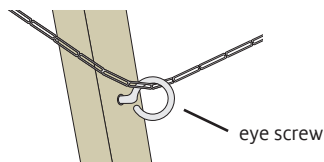
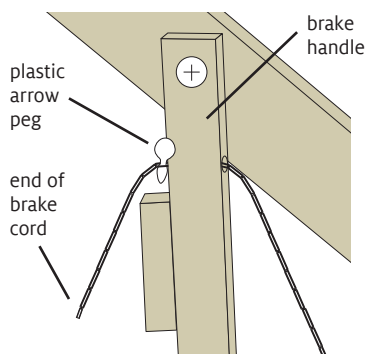
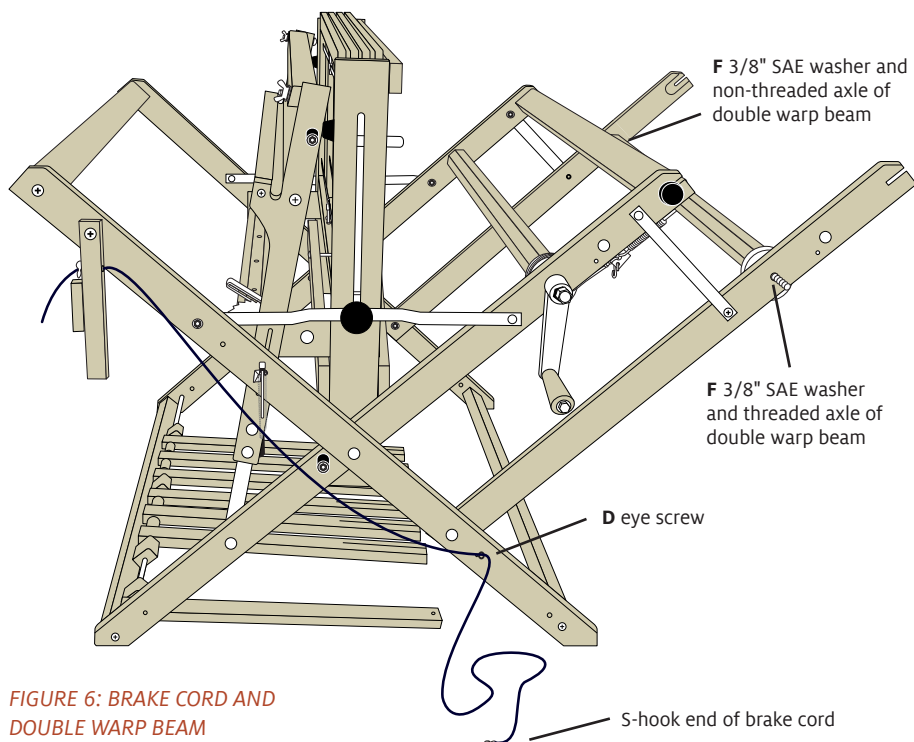

FIGURE 7: EYE SCREW DETAIL
FIGURE 8: BRAKE CORD DETAIL
FIGURE 6: BRAKE CORD AND DOUBLE WARP BEAM
9. Screw the 1/8" x 1-3/8" eye screw into hole [D] in the right outside leg (Figure 6). Be sure that the break in the eye screw is pointed down (Figure 7). Thread the free end of the cord through the eye screw, then up through the hole in the brake handle (Figure 8). Insert the plastic arrow peg through the tenth hole from the end of the brake cord to secure the cord. The end attached to the S-hook will be attached in step 15.
10. Place a 3/8" SAE washer over each axle on the double warp beam. Insert the threaded brake axle into hole [F] on the right double back beam support—this hole goes all the way through the support (Figure 6). Gently spread the double back beam supports apart just enough to fit the non-threaded axle into hole [F] on the left double back beam support—this hole does not go all the way through the support.